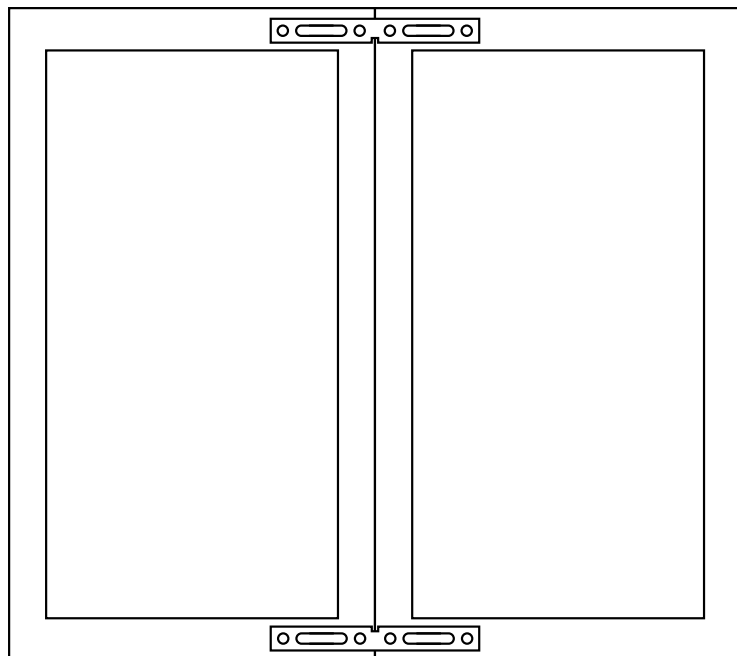

Figure 1
- Align doors side by side. Based on preference, either align with door edges touching or gapped to match adjacent doors/drawers. Use the center notch to center door joining brackets between both doors (see Figure 1).